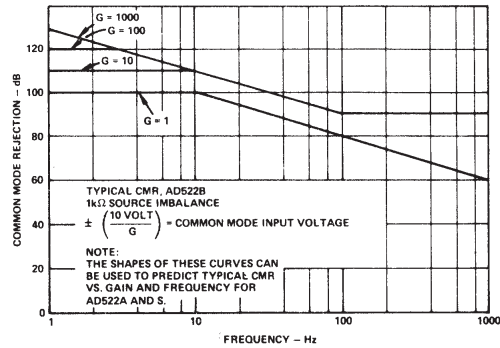

Figure 5. Common Mode Rejection vs. Frequency and Gain
Common Mode Rejection Ratio, Min @ ±10V, 1kΩ Source Imbalance (see Fig. 5)
**Common Mode Rejection:** CMR is rated at  $\pm 10V$  and  $1k\Omega$  source imbalance. At lower gains, CMR depends mainly on thin-film resistor stability but due to gain-bandwidth considerations, is relatively constant with frequency to beyond 60Hz. The dc CMR improves with increasing gain and is increasingly subject to phase shifts in limited bandwidth high-gain amplifiers. Figure 5 illustrates CMR vs. Gain and Frequency.